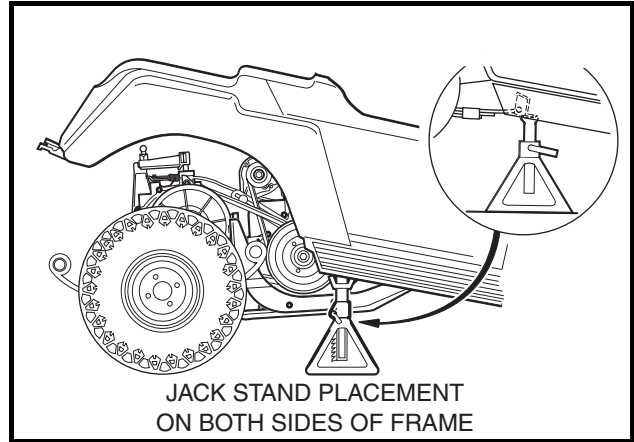

Figure 18-25 Position Jack Stands
11. Position jack stands, adjusted to support the vehicle at this height, under the frame crossmember between the leaf spring mounts and side stringers, just forward of each rear wheel. Lower the floor jack to allow the jack stands to support the vehicle (**Figure 18-25, Page 18-11**).